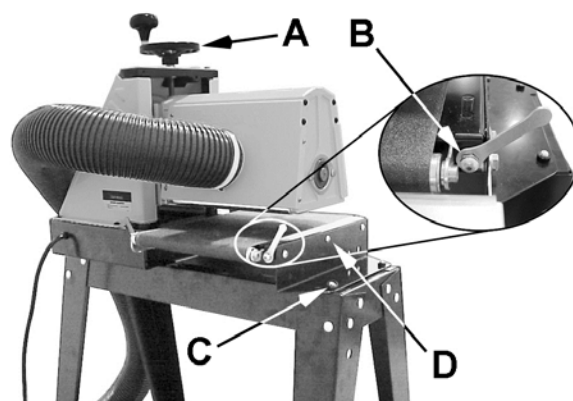

Figure 19
2. Raise the drum to its highest position using the *handwheel* (A, Fig. 19).
3. Remove the belt tension by loosening both *take-up nuts* (B, Fig. 19).
4. Unscrew the three *screws* (D, Fig. 19) that attach the conveyor to the bracket.
5. Unbolt the two *hex head screws* (C, Fig. 19) that hold the bracket to the bench or stand.